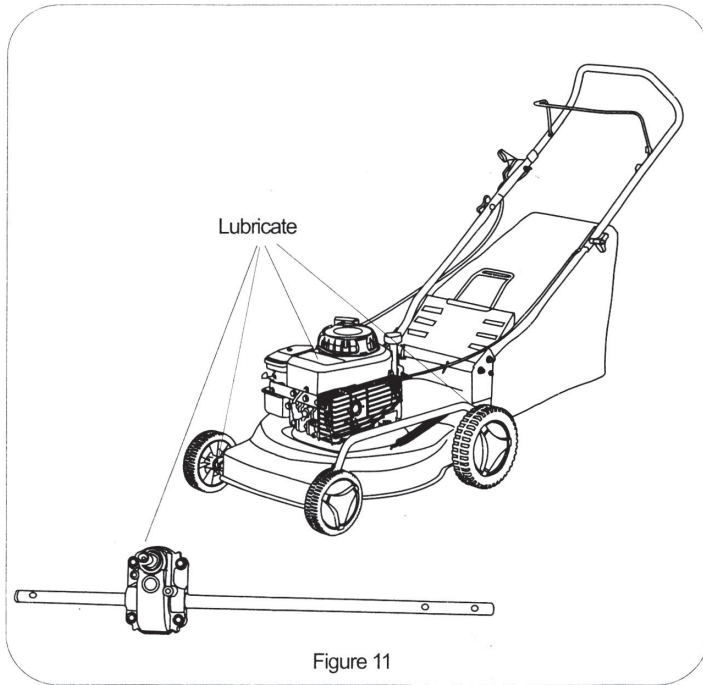

Figure 11
**Wheels:** Lubricate the wheels at least once a season with light oil (or engine oil). Also, if the wheels are removed for any reason, lubricate the surface of the axle bolt and the inner surface of the wheel with light oil. See Figure 11. **Engine:** Follow engine manual for lubrication instructions.